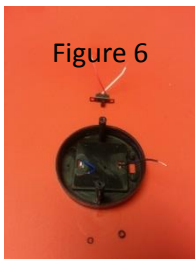

Figure 6
5) Using a flathead screwdriver, pry the switch off the black plastic housing shown in **Figure 5**. It is simply held on with some melted plastic and should come free with a little pressure as shown in **Figure 6**.